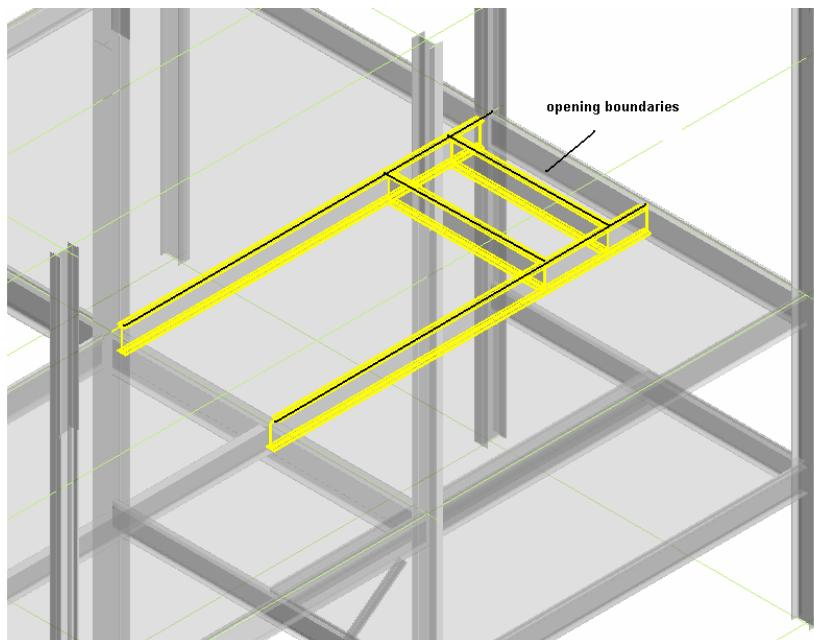

Figure 15 – ISO View of the Stairway Opening
- 2 Select the slab located in the first floor frame as shown in Figure 15
- 3 Select the members as shown in Figure 15 to define the boundaries of the opening. Use quick pick service to pick the members.